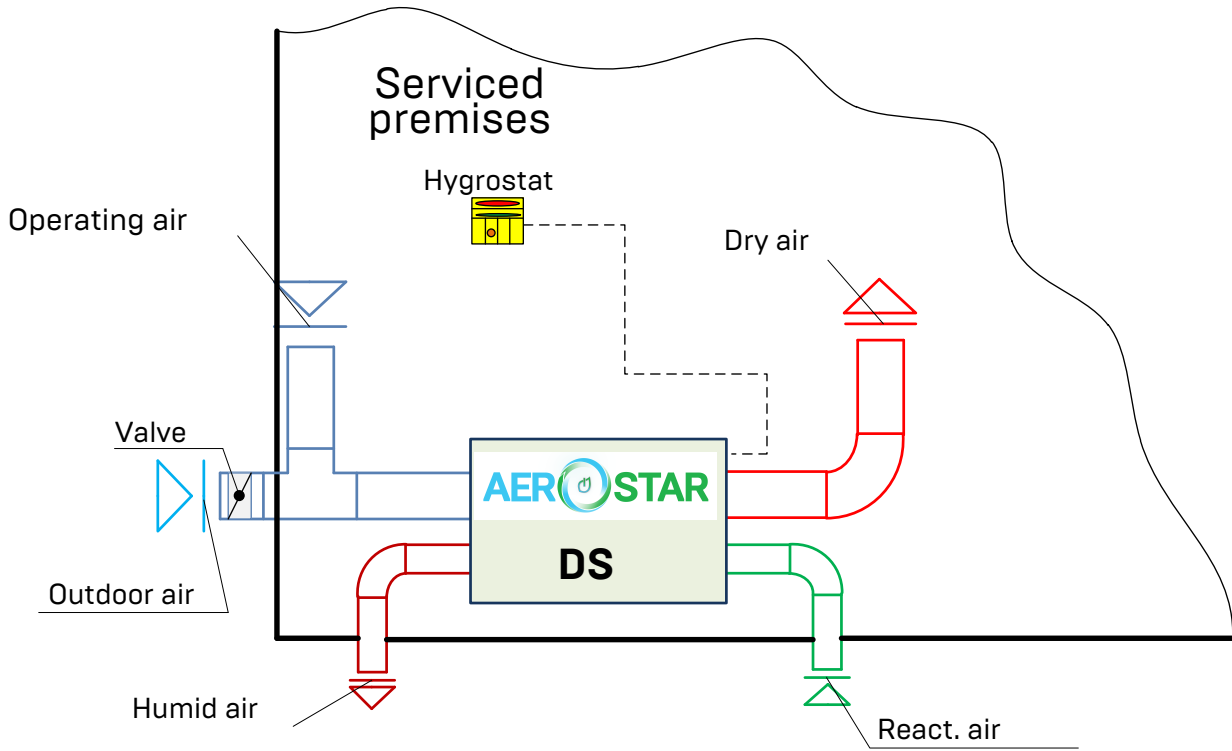
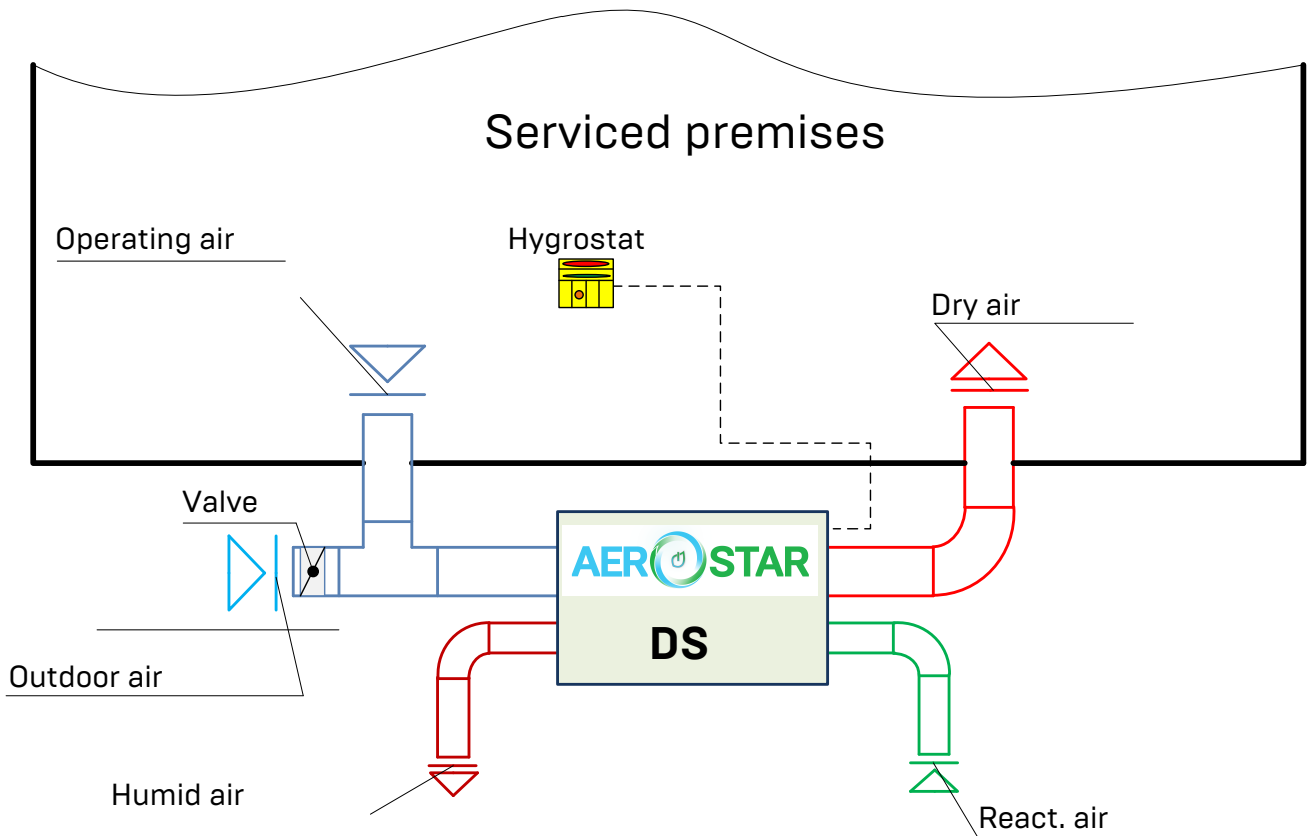

Figure 4.5 - Operation of the dehumidifier according to the "closed" scheme with fresh air admixture (internal version)
Figure 4.6 - Operation of the dehumidifier according to the "closed" scheme with fresh air admixture (outdoor version)
- ✓ operation of the dehumidifier according to a "closed" scheme with an admixture of outside air (internal version) - see figure 4.5;
- ✓ operation of the dehumidifier according to a "closed" scheme with an admixture of outside air (outdoor version) - see Figure 4.6;
Figure 4.5 shows the internal installation of the dehumidifier when operating in the recirculation mode ("closed" scheme) with an admixture of outside fresh air. This option is relevant in cases where it is necessary to ventilate the room with fresh air, or it is necessary to create excess pressure in the serviced room to prevent unorganized inflow of outside air. The outside air duct must be equipped with a manual or automatic control valve to control the amount of fresh air supplied.
Figure 4.6 shows the outdoor installation of the dehumidifier when operating in the recirculation mode ("closed" circuit) with the admixture of outside fresh air. It differs from the fifth option (see figure 4.5) only in the place where the dehumidifier is installed.